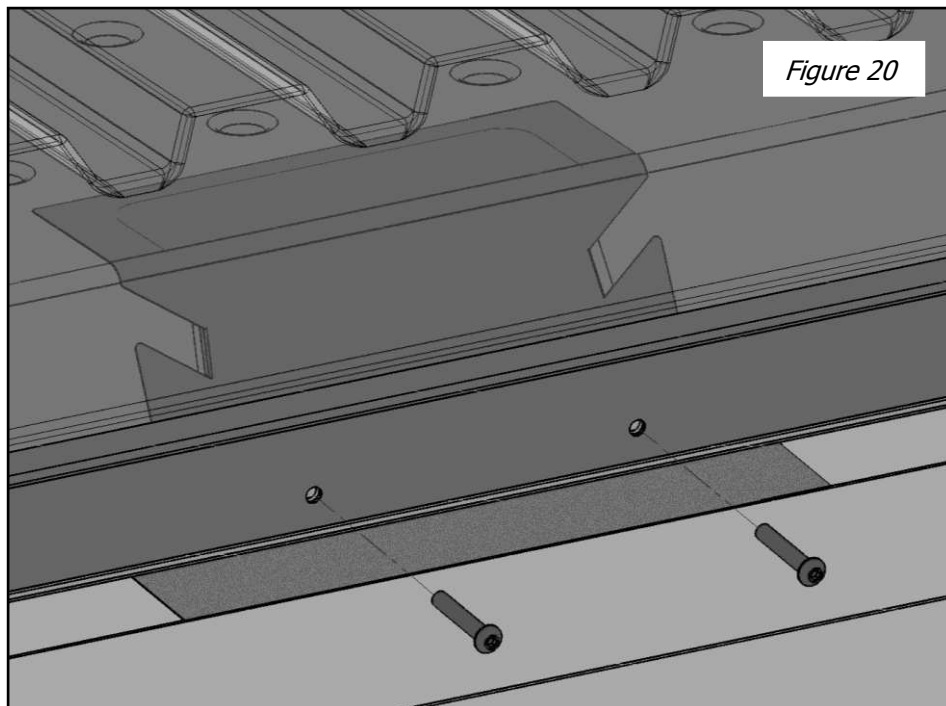

Figure 20
Step 15. As shown in Figure 20, install the two 3/8"-16 x 2-1/4" button head cap screws by passing them through the plain holes in the top aluminum extrusion and into the threaded inserts in the Upper Mounting Plate. Make sure that the flashing lip is INSIDE the extrusion. For thick shingles, you may need to trim the flashing with sheet metal snips to access the holes in the Upper Mounting Bracket.
Tank plumbing must allow isolation of the water heater from the cold water supply line by means of an isolating ball valve (Figure 20 and Figure 21, item 6). A thermostatic mixing valve (also known as a tempering valve) is required. The specified mixing valve shall be Zurn model 34-ZW1017C or similar and shall have an operating range between 95°F and 140°F. Set the mixing valve to operate at 5°F above the water heater setpoint. In some jurisdictions, anti-scald bath fixtures can be used in-lieu of the mixing
When reviewing the primary components in your SunCache ICS System, please refer to Figure 20 and Figure 21.